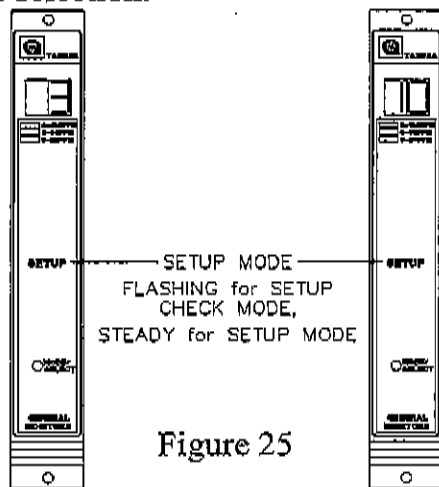

Figure 25
- Following **ct**, the ramp up time (3 or 10) during the card test (figure 25) will be displayed. 3 is the factory default for this selection.